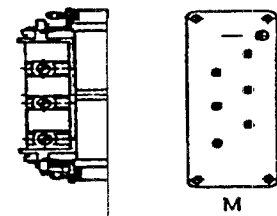

Figure 45 DIN male connector.
- 134 Connection via an industrial Harting 6HSB connector in accordance with DIN 41640 (see Figure 45).